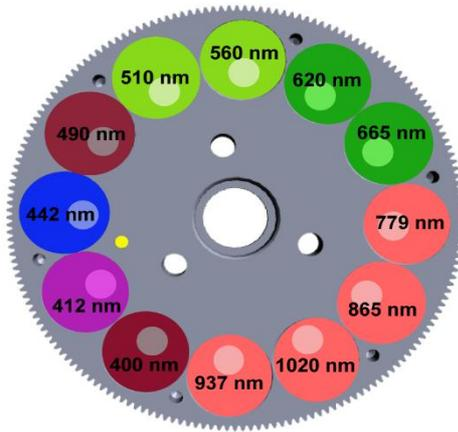

Figure 5 : Ocean Color 12 filters (CE318-TV12-OC)
- **Ocean Color (OC) 12 filters / CE318-TV12-OC / SeaPRISM:** It uses 400, 412.5, 442.5, 490, 510, 560, 620, 665, 779, 865, 937, 1020 nm filters (Fig.5)